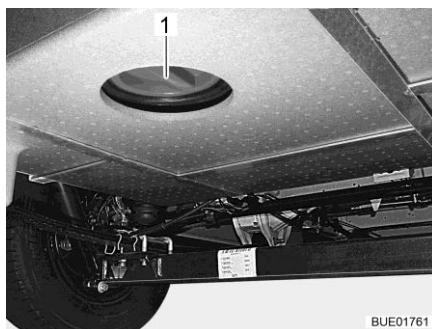

Fig. 285 Cleaning opening (waste water tank)
- Open the cleaning opening (Fig. 285,1) on the waste water tank and the drain cock.